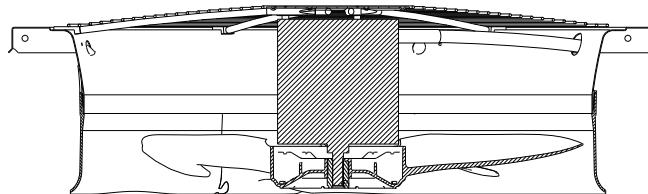

Fig. 25 — Condenser-Fan Adjustment
2. Remove condenser-fan assembly (grille, motor, and fan). See Fig. 25.